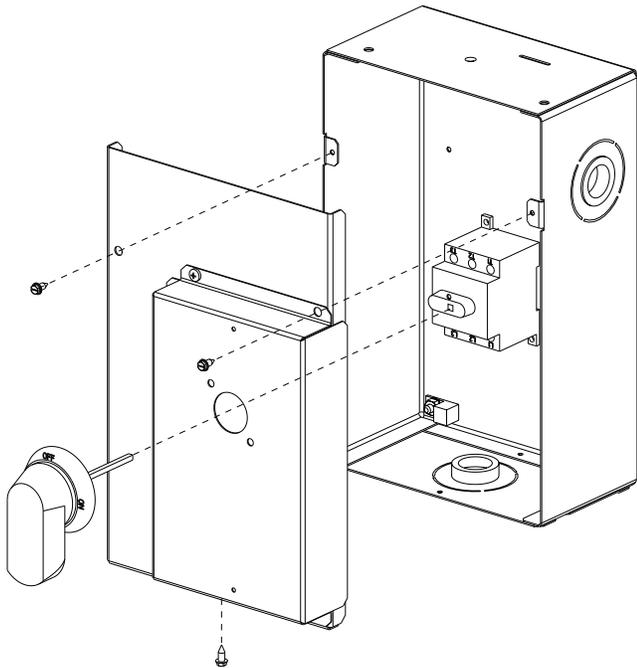

Fig. 41 — Handle and Shaft Assembly for NFD
2. Remove (3) hex screws on the NFD enclosure - (2) on the face of the cover and (1) on the bottom (see Fig. 41).
10. Secure the handle to the painted cover with (2) screws and lock washers supplied.
11. Engaging the shaft into the handle socket, re-install (3) hex screws on the NFD enclosure.